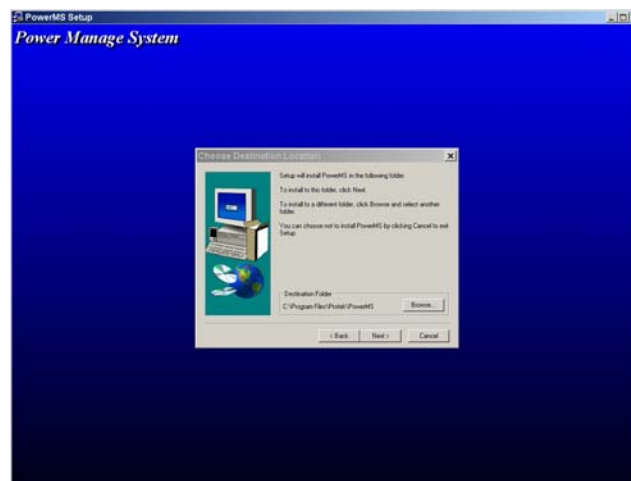

Fig. 3-4 The Installation Directory Path Set window
- 3.1.4 Fig. 3-4 displays the user directory the software will be installed in. The default directory path that the program will be installed in is “C:\Program Files\Array\PowerMS” If the program is to be installed in a different directory, Click the mouse on “Browse” to locate the desired directory.